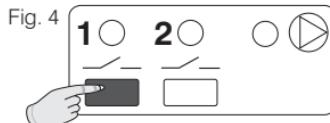

Fig. 4
- Hold down the **1✓** (ou **2✓**) **key** until there is a brief audible signal, then let go: the control is activated and the corresponding **LED** is steady on (fig.4). Also the pump (or burner) command is activated.